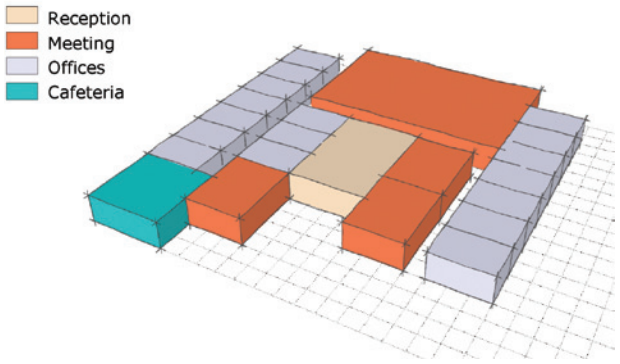

Figure 3.20: Space planning in SketchUp
- **As a programming tool**—When laying out building programs, it is possible to easily “block” out areas and spaces and arrange them in SketchUp (see **Figure 3.20**). It is even possible to create these spaces based on data from external software—examples are the Onuma Planning System and Trelligence Affinity.